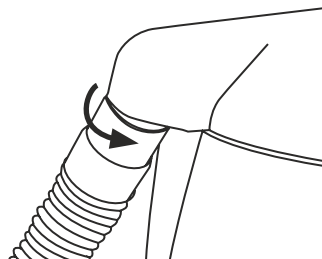

Fig 6
1. To connect the flexible hose into the hose inlet, insert the threaded end of the flexible hose into the hose inlet and turn counter-clockwise until it locks into place. (Fig.6)